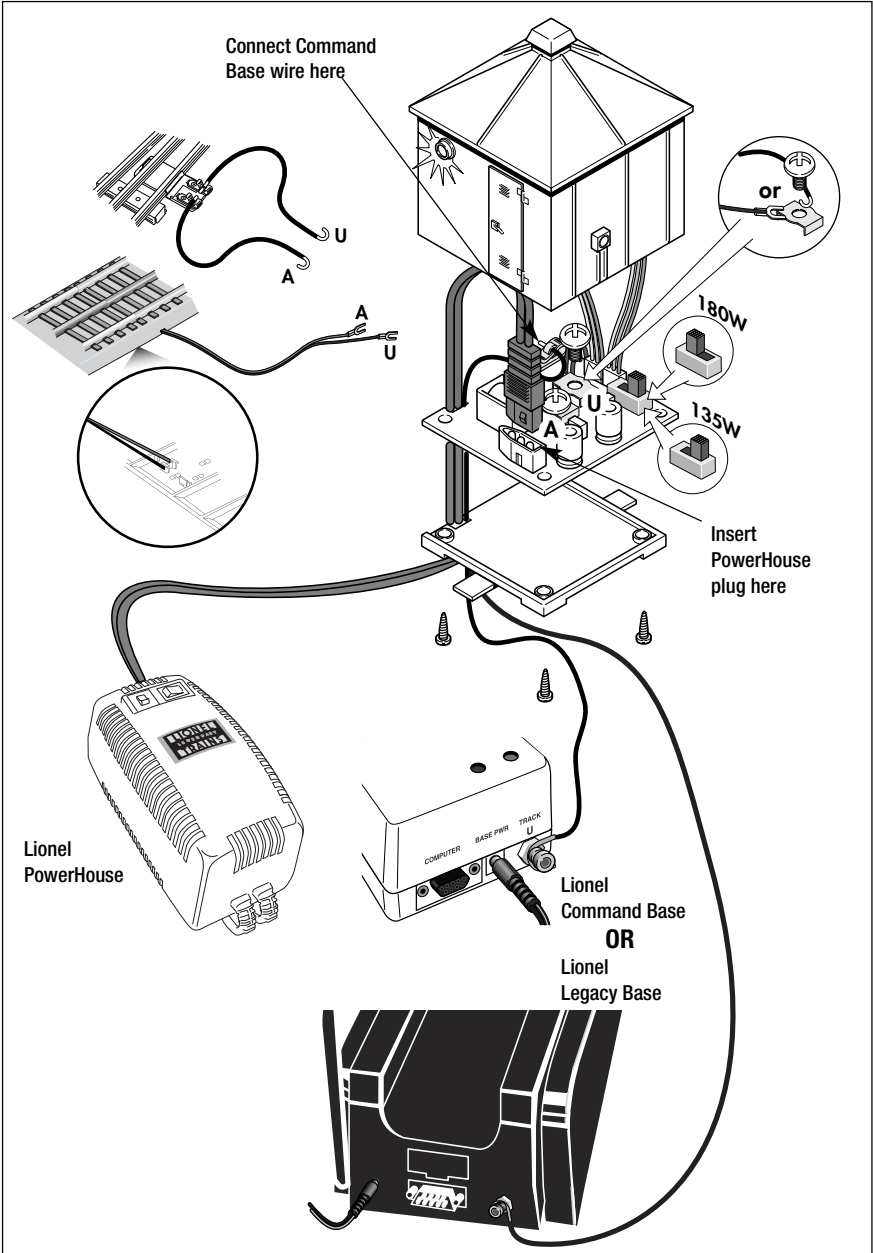

Figure 1. Direct Lockon connections and switch location
**T**he PowerHouse Power Supply and Command Base connections are found inside of the structure. Follow these steps and refer to Figure 1 on page 3 as you make these connections.
- 6. Route the PowerHouse Power Supply cord and the Command Base or Legacy Base wire through the slot as illustrated in Figure 1.**